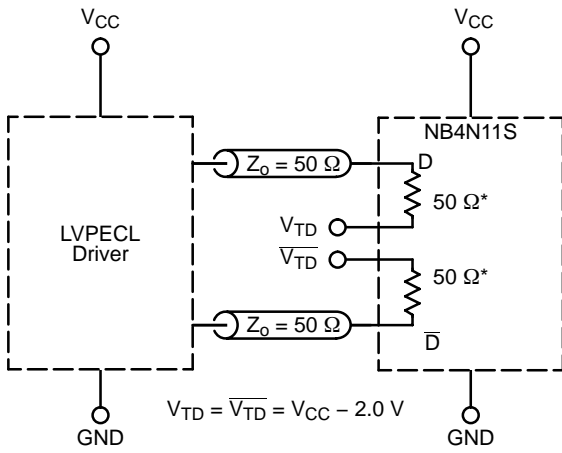

Figure 7. LVPECL Interface
**DIFFERENTIAL INPUTS DRIVEN DIFFERENTIALLY** (Figures 7, 8, 9, 10, 17, and 19)